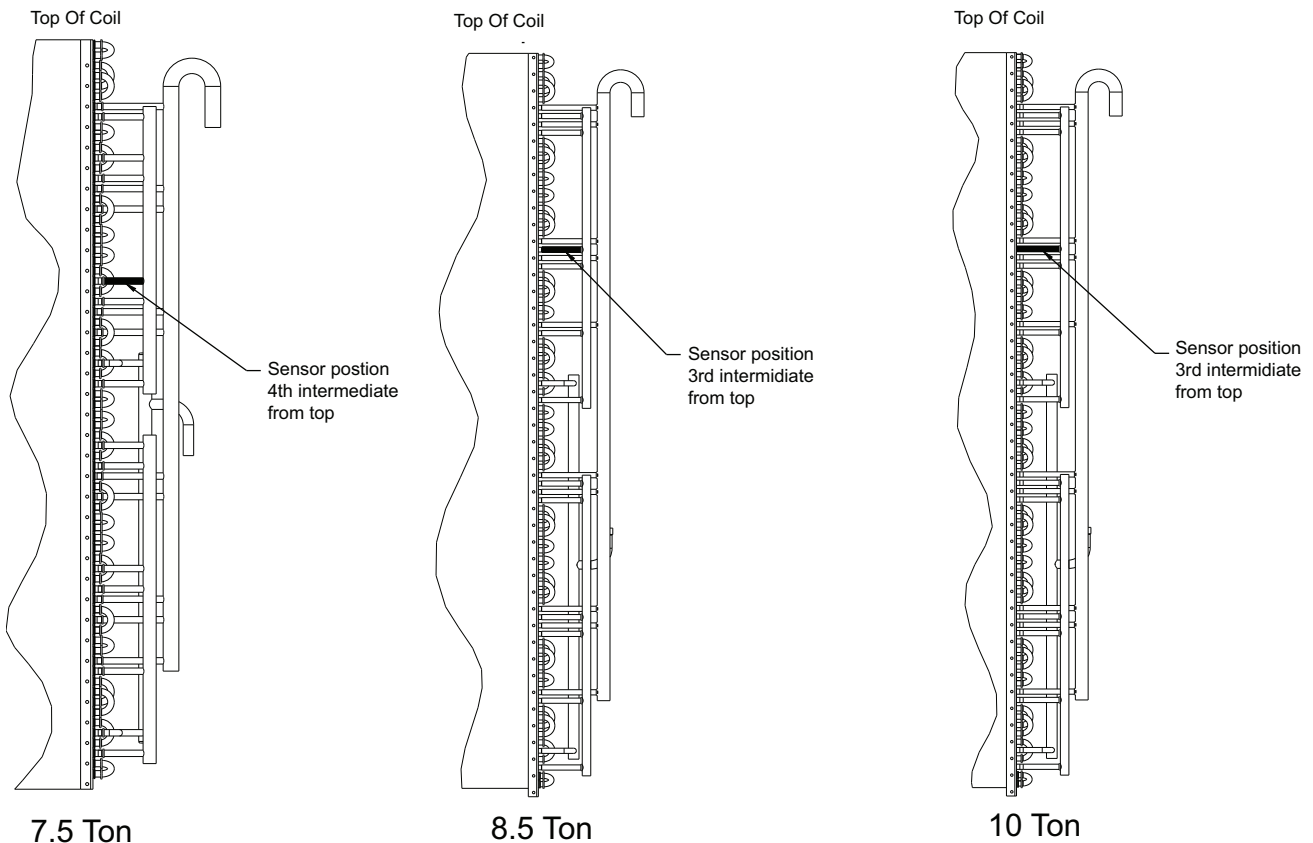

Fig. 7 — Sensor Locations for 48/50FC, 582K/559K, RGV/RAV
14. Install the controller’s sensor on the outdoor condenser coil. (See Fig. 7.) When installing the sensor, use the included 2 in. insulation tape and wire tie to secure the sensor to the coil header.